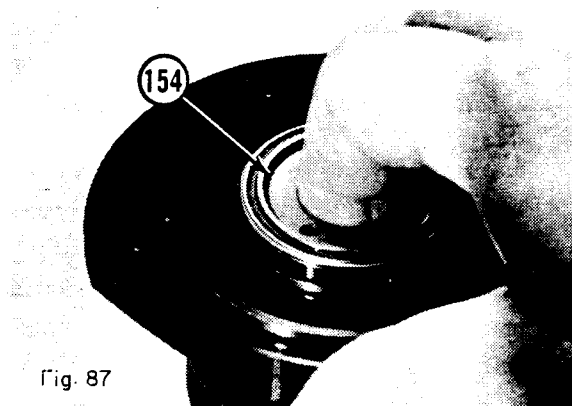

Fig. 87
5. Having removed the bearing retainer (148), you may now lift the bias spool (154) out of the air bias housing assembly as shown in Fig. 87.